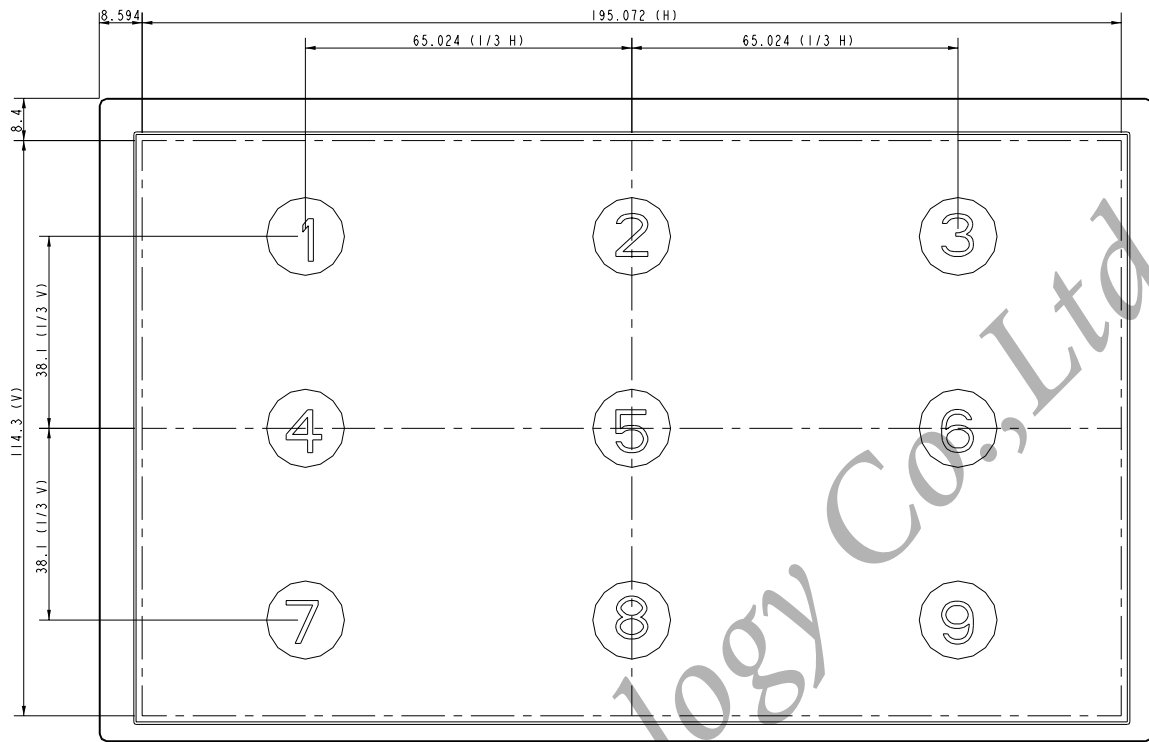

Fig. 8-1 Measuring point
- \*3) Definition of Luminance: Measuring white luminance on the point 5 as figure 8-1
- Definition of Luminance Uniformity: Measuring white luminance on the point1 to 9 as figure 8-1